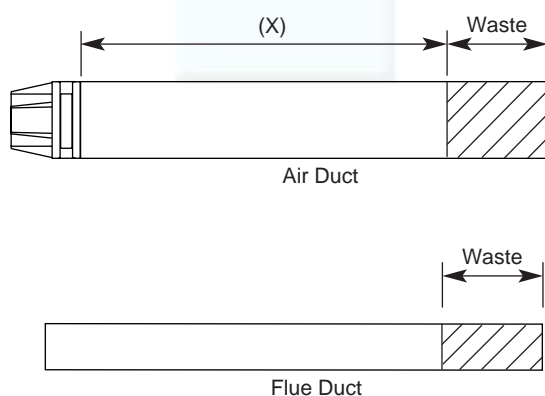

Fig. 21
5. Taking the air duct, mark dimension 'X' as shown (Fig. 21). Measure the length of waste material, and transfer the dimension to the flue duct (Fig. 21).